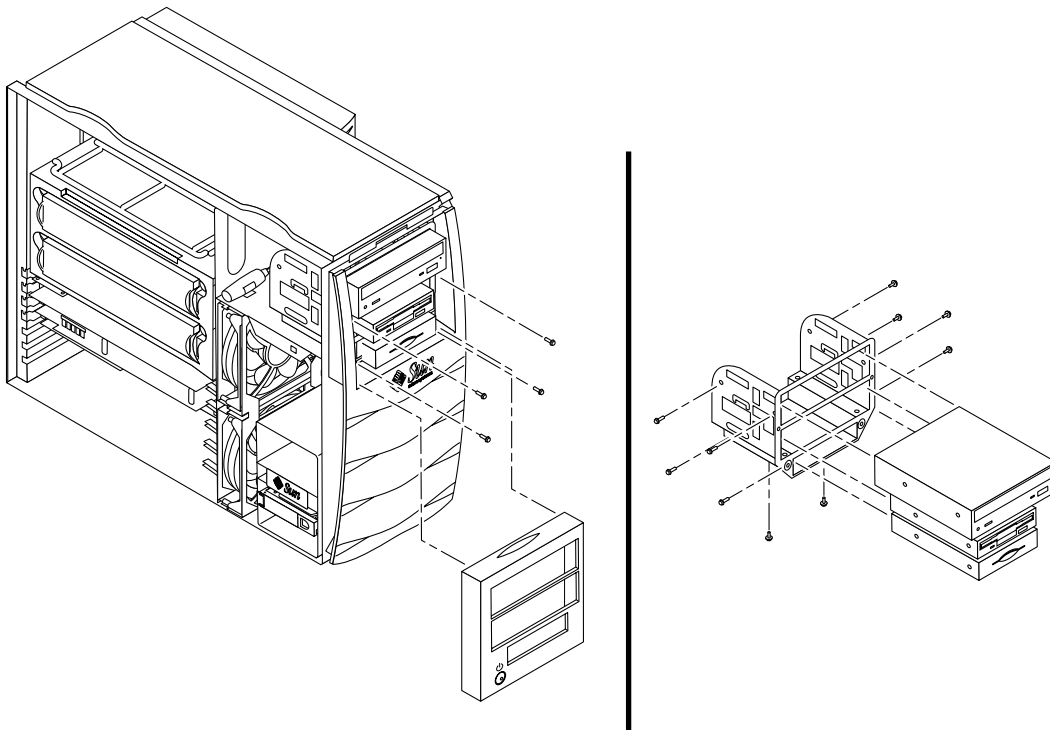

FIGURE 13 Installing Additional Peripheral Drives
2. Remove the peripheral assembly as follows (see FIGURE 13):